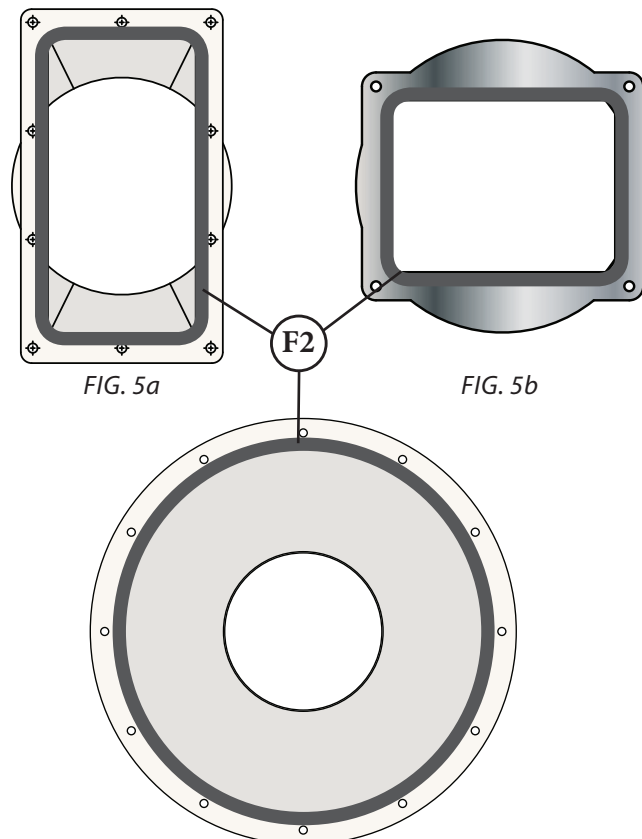

FIG. 5c
- Apply to the top flange of the Cone (C, BB). Make sure you apply it inside the bolt holes [FIG. 5c].